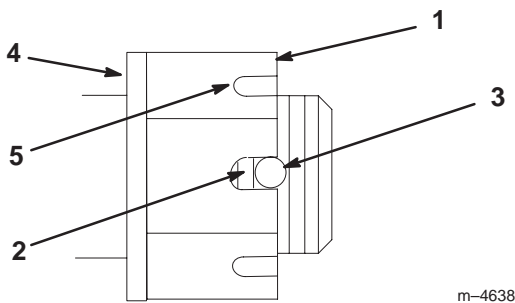

Figure 48
- Torque the slotted nut to 125 ft-lb (170 N·m) (Fig. 48).
Note: No more than 2 threads should be showing (Fig. 48).
- If more than 2 threads are showing, remove the nut and install a washer between the hub and nut (Fig. 48).
- Tighten the nut until the next set of slots line up with the hole in the shaft (Fig. 48).